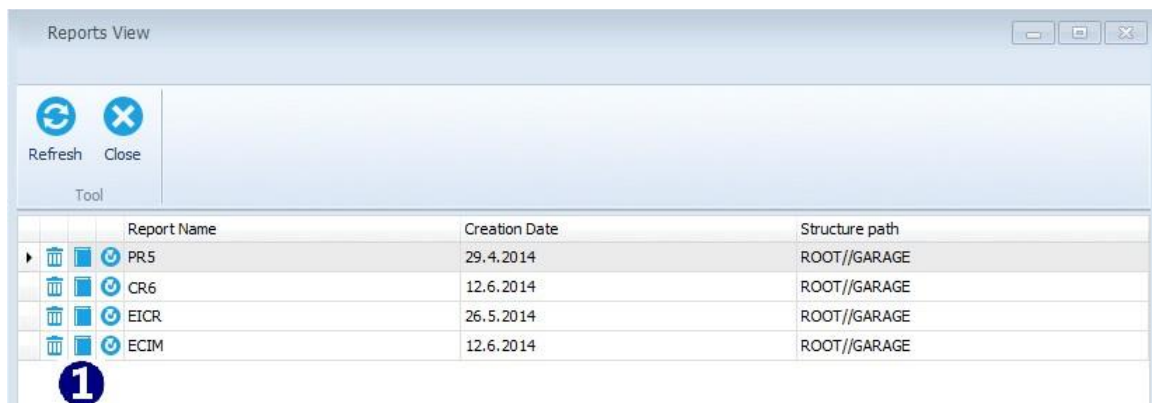

Figure 11.1: Manage reports window
• **Manage** : Click on icon opens list of existing reports (**Figure 11.1**) for managing. Each report can be opened for editing, deleted or re-created (❶):